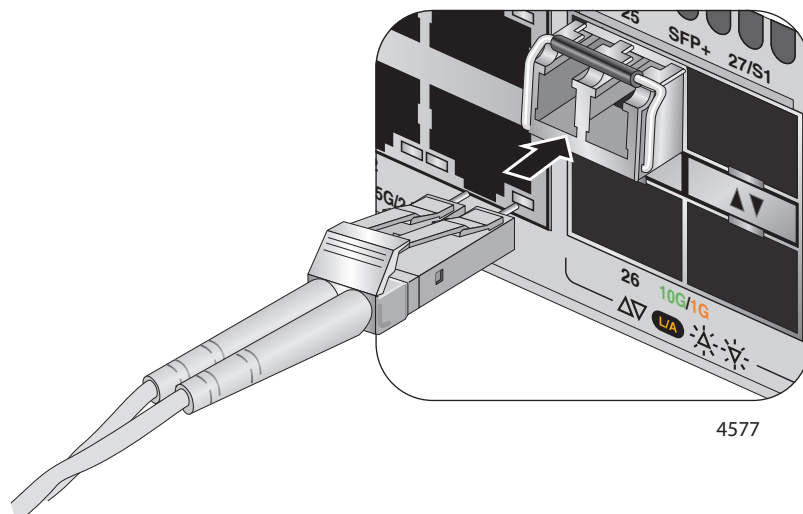

Figure 81. Connecting a Fiber Optic Cable to an SFP or SFP+ Transceiver
6. Connect the fiber optic cable to the transceiver, as shown in Figure 81. The connector on the cable must fit snugly into the port, and the tab must lock the connector into place.